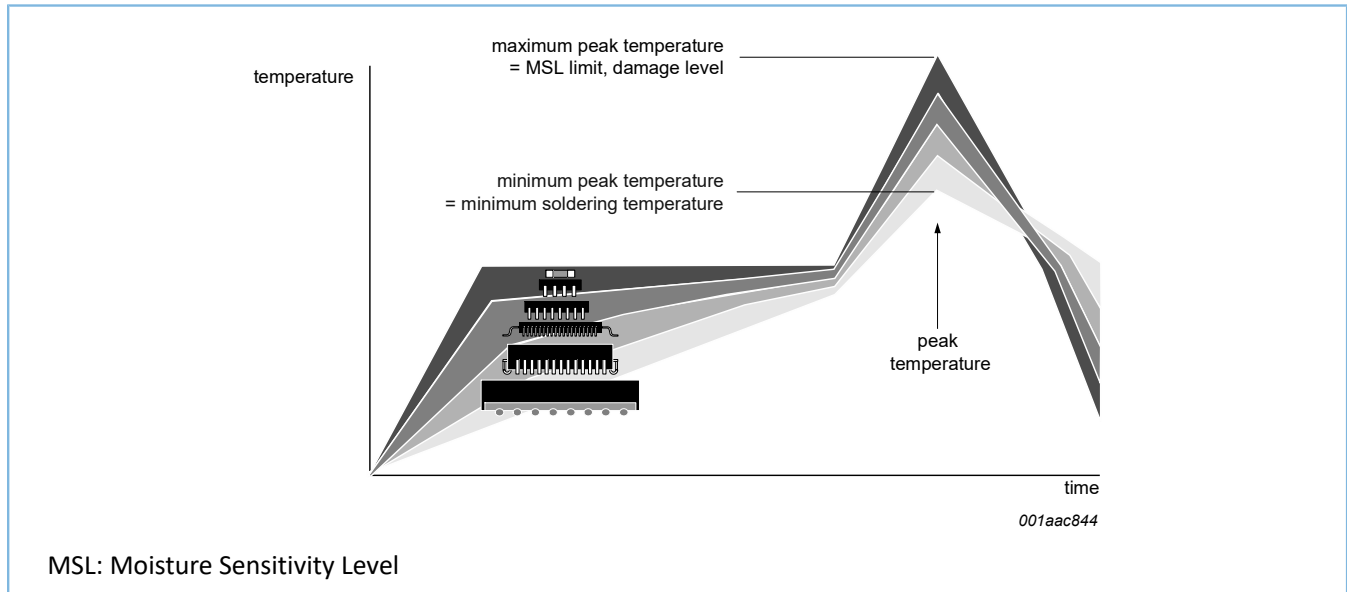

Figure 15-1: Temperature profiles for large and small components
- Lead-free versus SnPb soldering; note that a lead-free reflow process usually leads to higher minimum peak temperatures (see Figure 15-1) than a SnPb process, thus reducing the process window
Studies have shown that small packages reach higher temperatures during reflow soldering, see Figure 15-1.